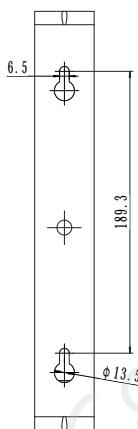

Fig. 2
3. Take the mounting bracket as a template to mark the position for screws and drill four holes on the wall (fig. 2).